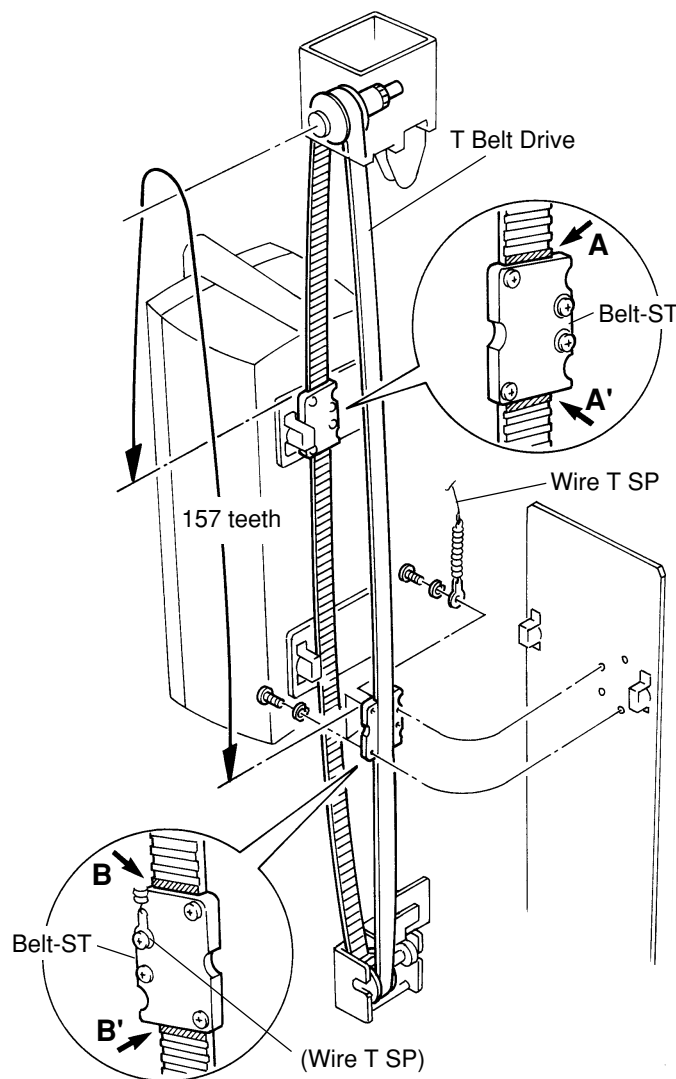

Fig. 1.7 Belt Positioning
- Paint marks on the belt teeth (A, A', B, and B'). See Fig. 1.7.
See Fig. 1.7